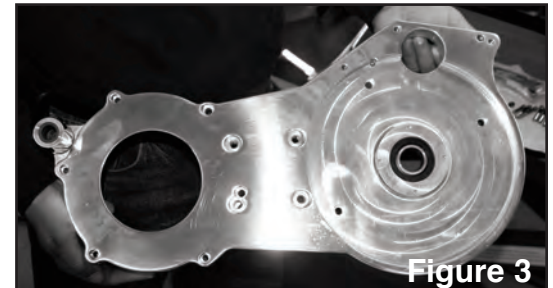

Figure 3
**NOTE: Although the motorplate will come pre-assembled and ready to install from the factory (See Figure 3), in the event that it becomes necessary to disassemble it we are including some of the steps needed to re-assemble it.**